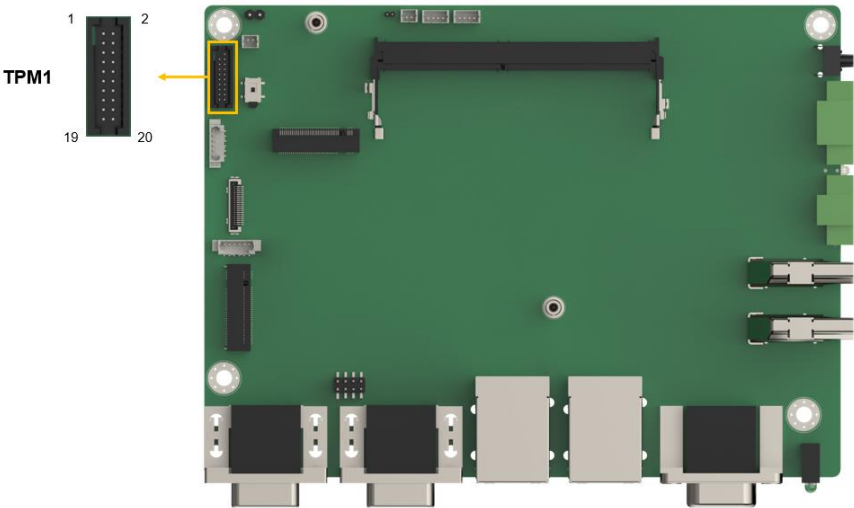

Figure 4-11: SPI TPM Connectors Location
- CN Location: See **Figure 4-11**